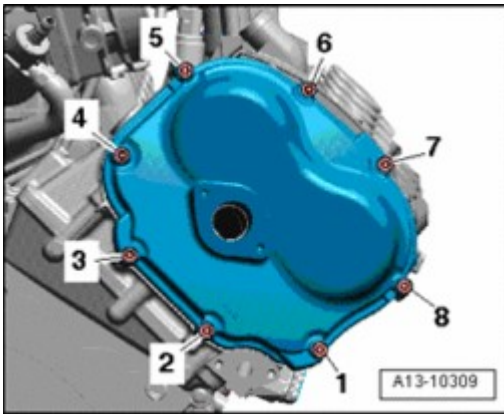

Fig. 165: Identifying Right Timing Chain Cover And Tighten/Removing Bolts Sequence
- Note tightening sequence --> **Fig. 165**